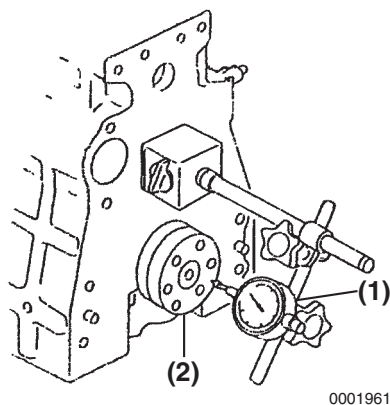

Figure 6-102
- **Method A:** Install a dial gauge (**Figure 6-102, (1)**) on the cylinder block. Move the crankshaft (**Figure 6-102, (2)**) in and out to measure the end play. Record the measurement.